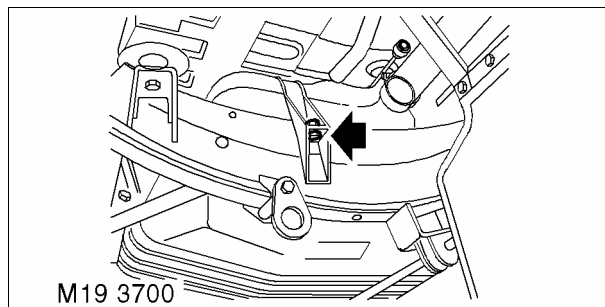

Fig. 5
- 9 Remove nut and bolt securing right-hand side fuel tank strap. Fig. 5.